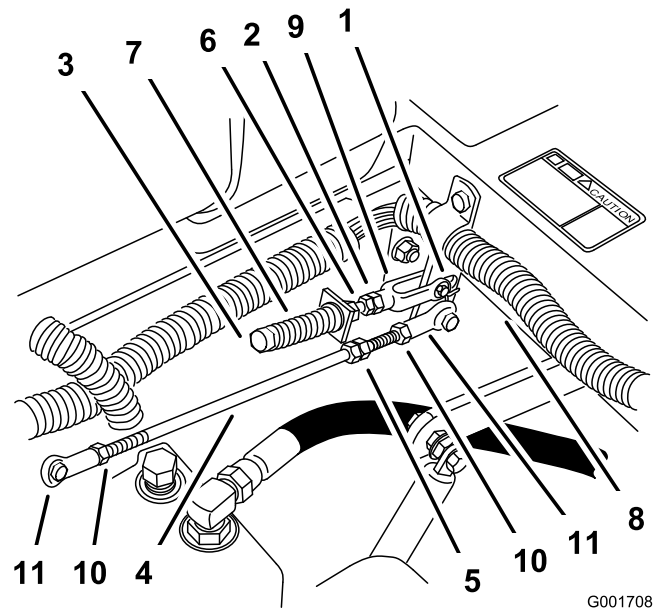

Figure 57
1. Loosen the locknuts at the ball joints on the pump control rod (Figure 57).
3. Adjust the pump rod length by rotating the double nuts on rod, in the appropriate direction, until wheel is still or slightly creeps in reverse (Figure 57).
6. Tighten the locknuts at the ball joints (Figure 57).